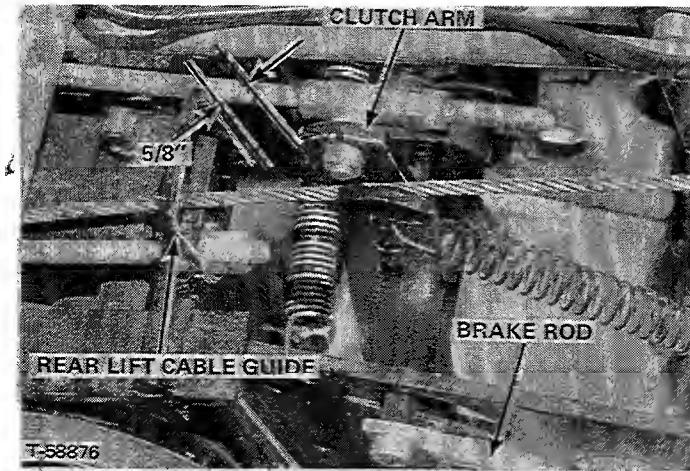

FIGURE 38
- See Figures 38 and 39. Adjust jam nuts on rear end of brake rod so that when foot clutch brake pedal is pushed firmly forward clutch arm will stop with its forward edge $5/8$ inch to rear of the rear lift cable guide near the bevel gear box when the brake is locked tight.